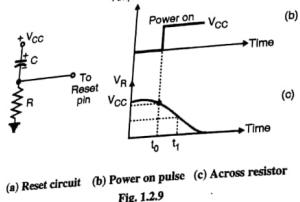

Fig. 1.2.9
- Fig. 1.2.9 shows power on reset circuit for microcontroller 8051.